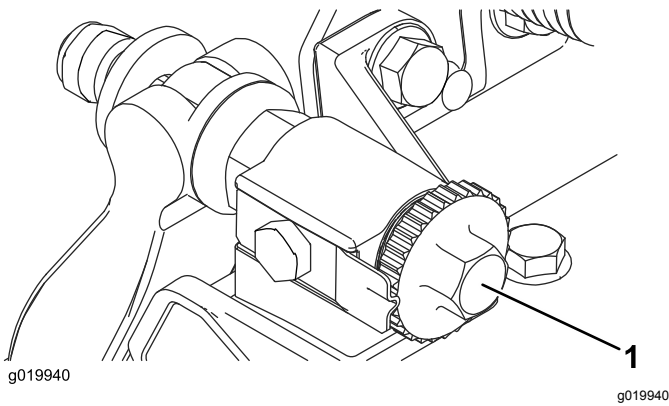

Figure 9
2. Turn the bedbar-adjusting screws counterclockwise to ensure that the bedbar does not contact the reel (Figure 9).